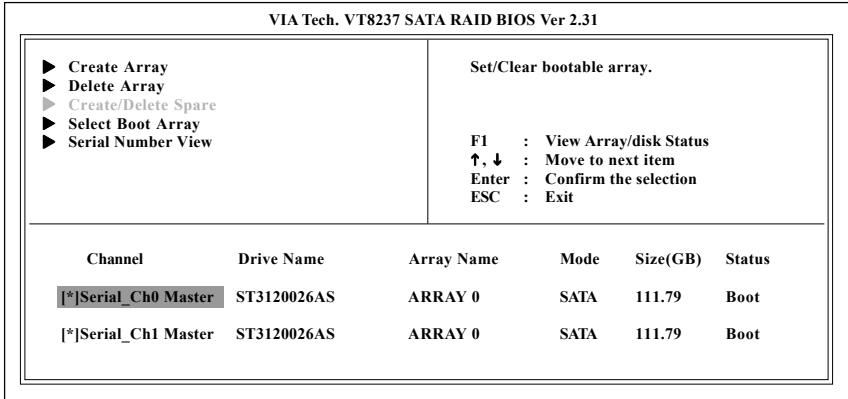

Figure 19
2. The selection bar will move to the Serial_CH0 Master option. Press <Enter> and you'll see the RAID disks marked with asterisks and the Status area will show "Boot." (Figure 19)